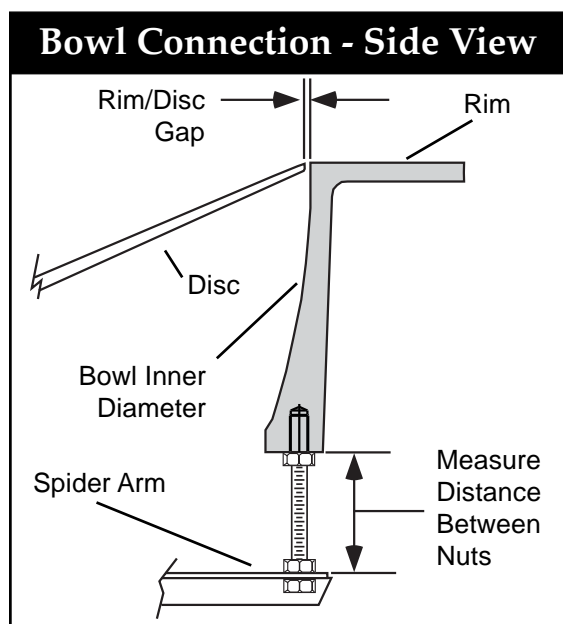

Figure 5-3. Bowl Connection
- ▶ If machining enlarges the inner diameter of the bowl, you may need to replace the disc with a larger one (custom-sized) from your direct supplier. If you do not obtain a larger disc, the gap between the disc and the inner diameter of the bowl may pinch or snag product (see Figure 5-3).
Measure the height between the bottom of the bowl, and the top of the spider arm (where the threaded rod connects the two parts - see Fig. 5-3). Loosen and remove the bottom nut on the spider arm (on each of the eight (8) arms) and remove the bowl - pulling it up and away from the feeder.